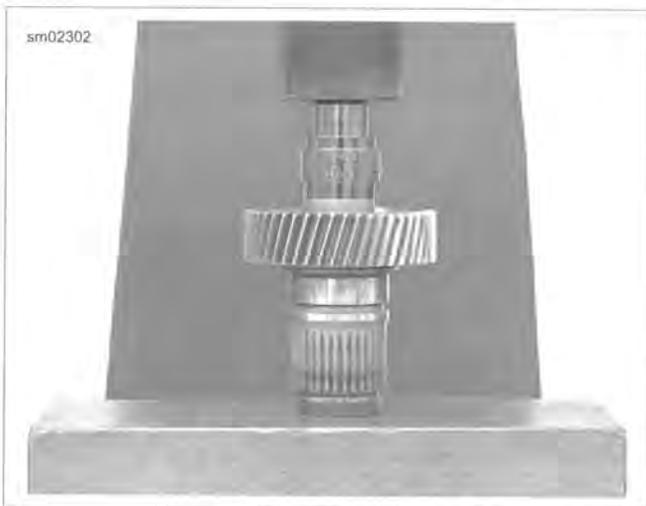

Figure 6-44. Installing Transmission Side Needle Bearing in Main Driver Gear
6. See Figure 6-44. Turn over the main drive gear in the arbor press. With the tool at the 0.188 in. step, press inner bearing until tool contacts gear.